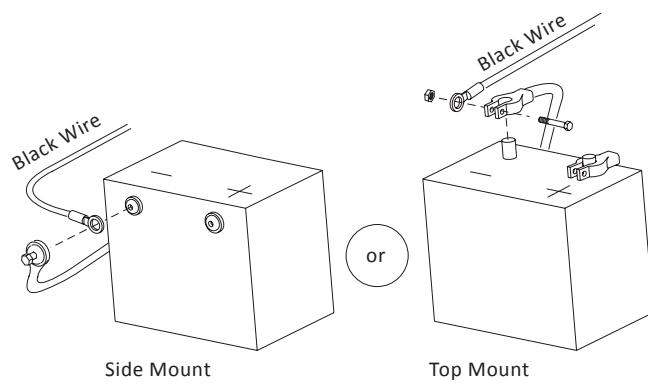

Figure 4-2
2. Start routing the wiring harness at the vehicle's battery. Join the black wire to the negative terminal on the battery. DO NOT attach the red wire until the very end of the installation process. *See Figure 4-2.*